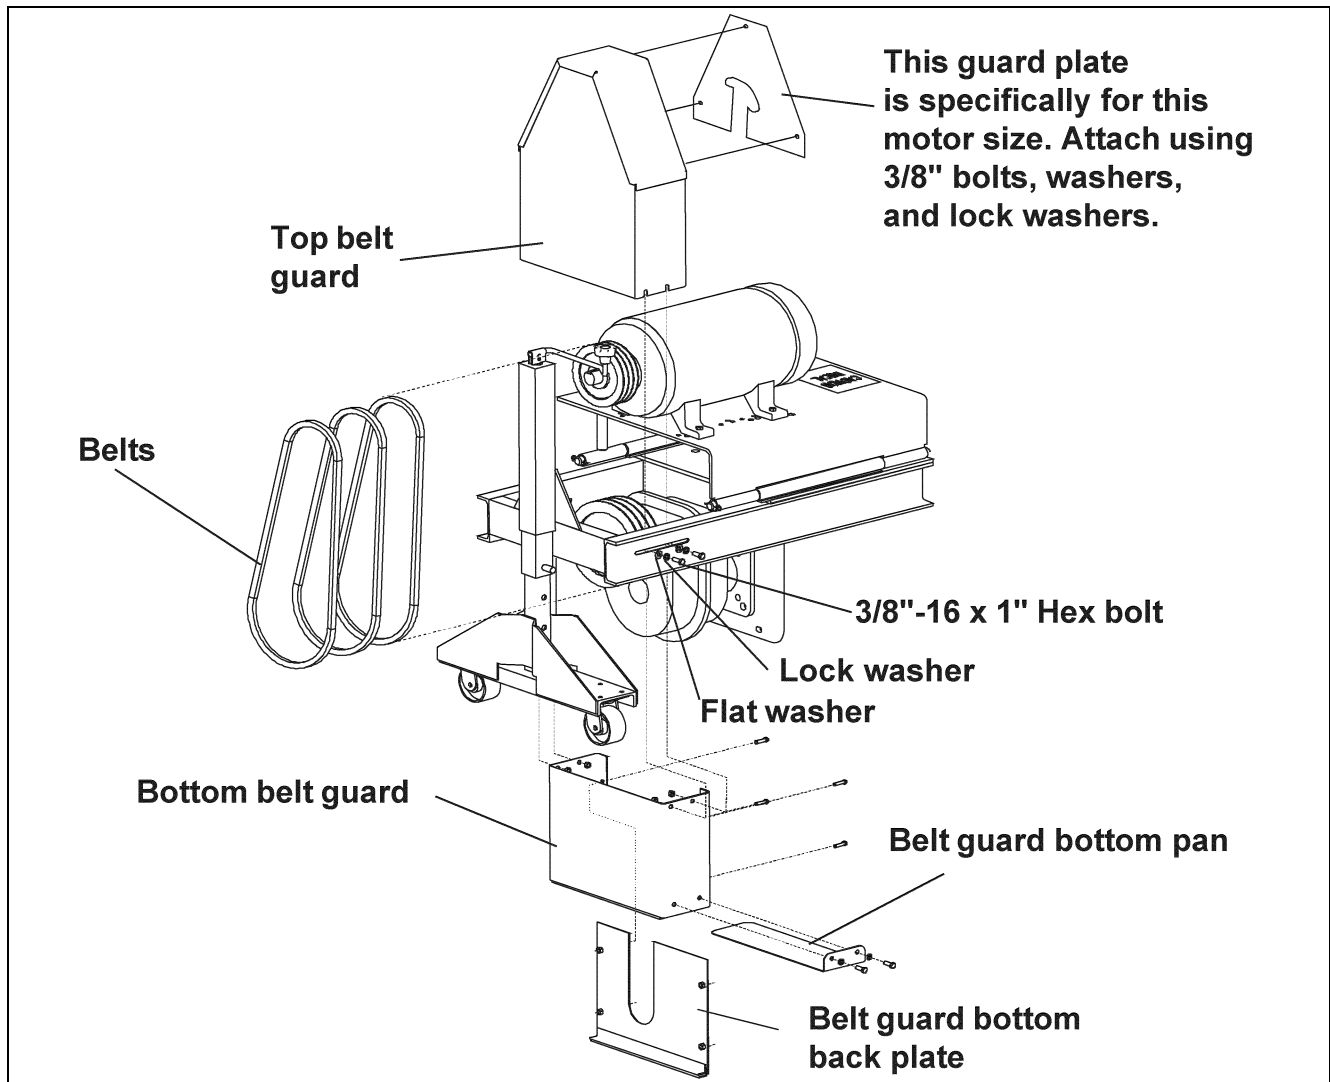

Figure 5Z
F. Carefully install the belts onto the large and small sheaves. (See Figure 5Z)
G. Loosely bolt the bottom belt guard to the motor mount using four (4) 3/8"-16 x 1" hex bolts, flat washers and lock washers. (See Figure 5Z)
H. Slide the top belt guard over the bottom belt guard as shown in Figure 5Z and tighten bolts.